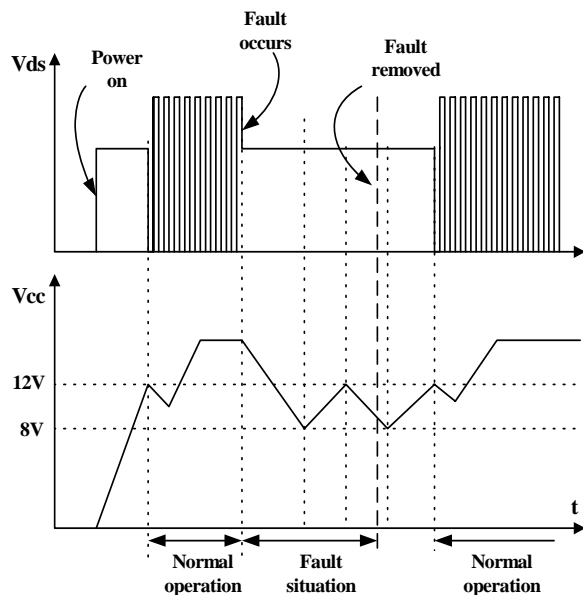

Figure 6. Auto restart operation
3. Protection Circuit : The FSDM0565RB has several self protective functions such as over load protection (OLP), over voltage protection (OVP) and thermal shutdown (TSD). Because these protection circuits are fully integrated into the IC without external components, the reliability can be improved without increasing cost. Once the fault condition occurs, switching is terminated and the Sense FET remains off. This causes Vcc to fall. When Vcc reaches the UVLO stop voltage, 8V, the protection is reset and the internal high voltage current source charges the Vcc capacitor via the Vstr pin. When Vcc reaches the UVLO start voltage, 12V, the FSDM0565RB resumes its normal operation. In this manner, the auto-restart can alternately enable and disable the switching of the power Sense FET until the fault condition is eliminated (see Figure 6).